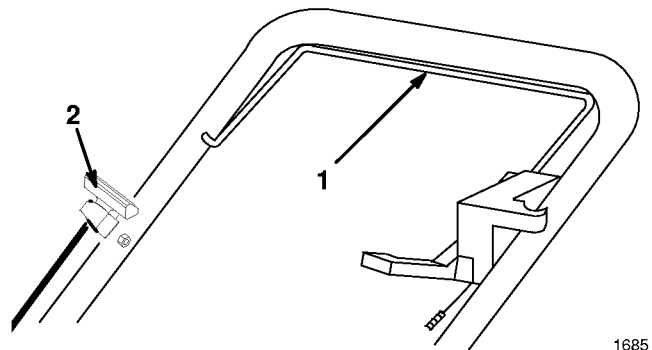

Figure 7
- 4. Squeeze control bar against handle (Fig. 7).
5. Pull starter handle (Fig. 7) lightly until resistance is felt, then pull sharply. Let rope return to handle slowly.
2. Pull starter handle (Fig. 7) lightly until resistance is felt, then pull sharply. Let rope return to handle slowly.